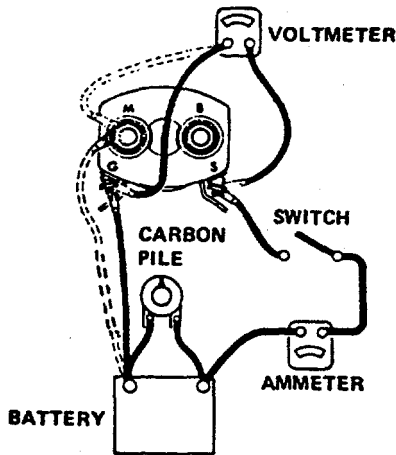

Figure 13-6. Checking Solenoid Hold-In and Pull-In Windings (Code A)
i. Solenoid Test. Disconnect all leads from the solenoid and make test connections as shown in figure 13-6.
(1) To check the hold-in winding, follow connections shown in solid line.
(2) Use the carbon pile to adjust the voltage to 20 volts. Voltmeter shall read 20 V DC and ammeter shall read 6.1 to 6.8 amps. A high ammeter reading indicates a shorted or grounded hold-in winding. A low reading indicates excessive resistance.